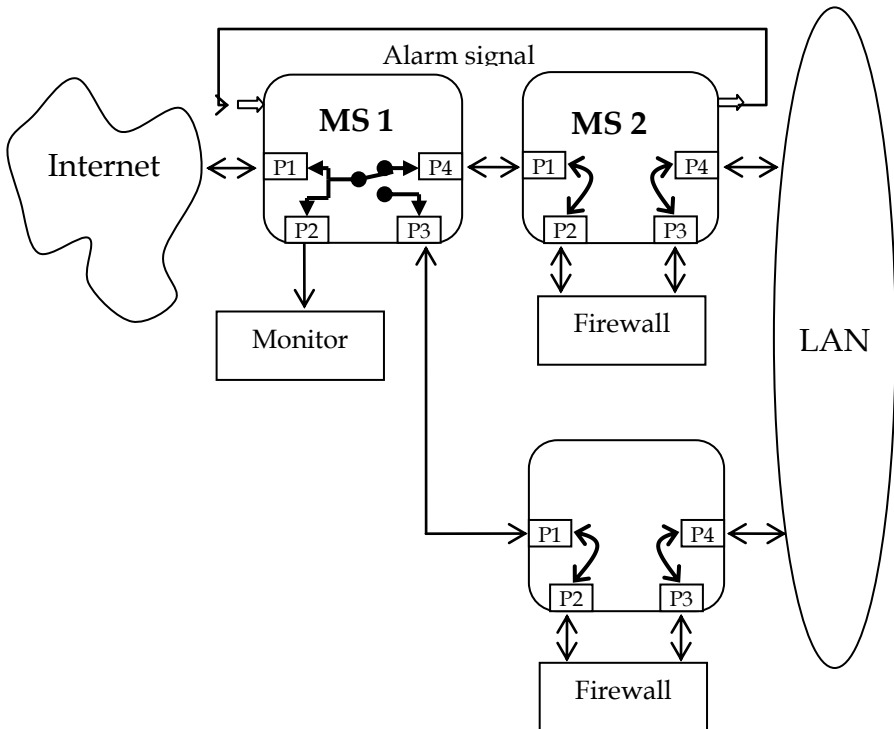

Figure 4 - Full Cascade System Diagram
1.	Connect up and configure the two units around the firewalls in mask mode (MS 2 and MS 3 in Figure 4). Follow the same procedure as for a single unit in mask mode. Check that each unit passes traffic and generates an alarm if a firewall connection is broken.